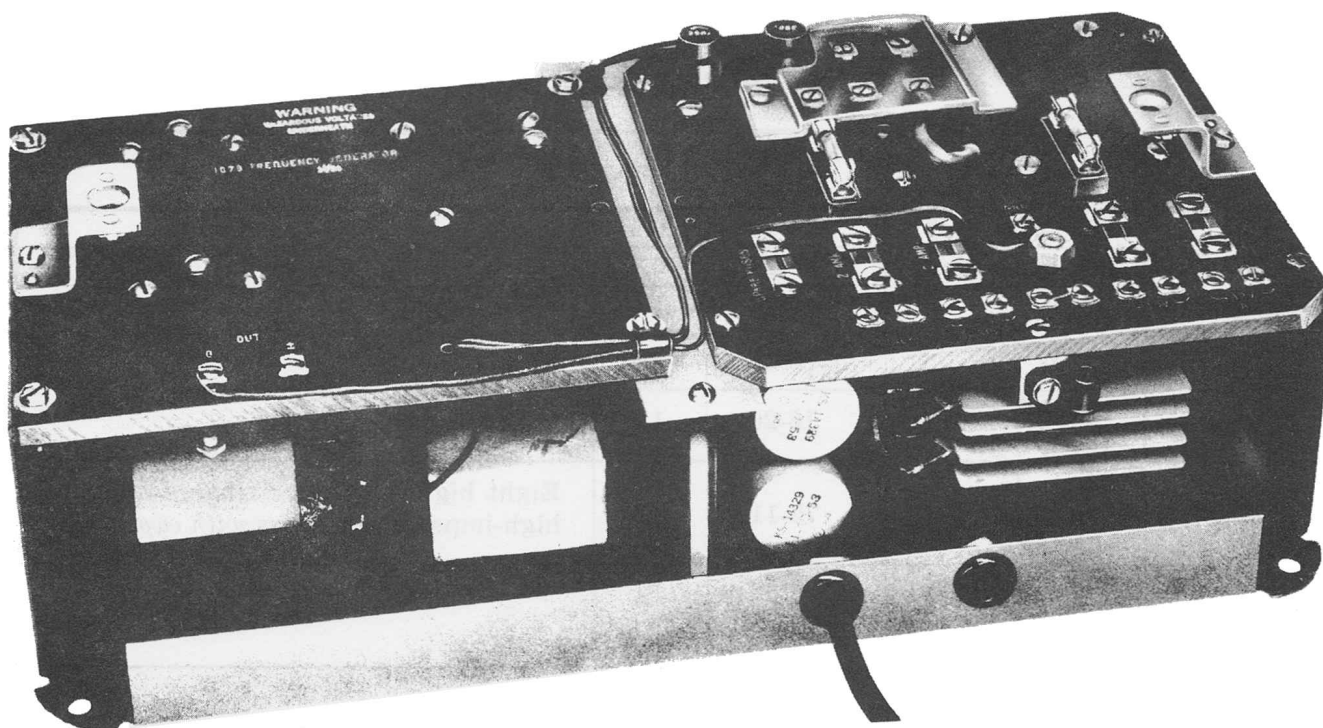

Fig. 3 — J86731A, List 4, Cover Removed
4.03 The cabinet for the J86731A, List 4 power plant (see Fig. 3) is the same as those mentioned in 4.02, except that it is 16-13/16 inches wide.